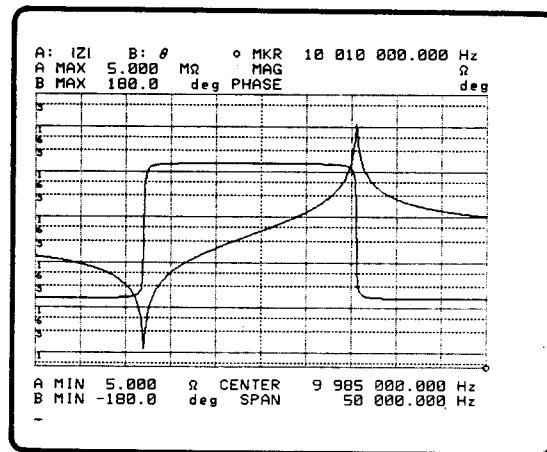

Figure 3-161. Calculated F Characteristics
- To delete the data taken in step 4 from the screen, press the **DISPLAY** key and the 'menu' softkey, then set the '**DISP A on/off**' softkey to **OFF**. Press softkey 'more 1/3' and set softkey '**DISP B on/off**' to **OFF**. Only simulated data will remain on the screen, see Figure 3-161.